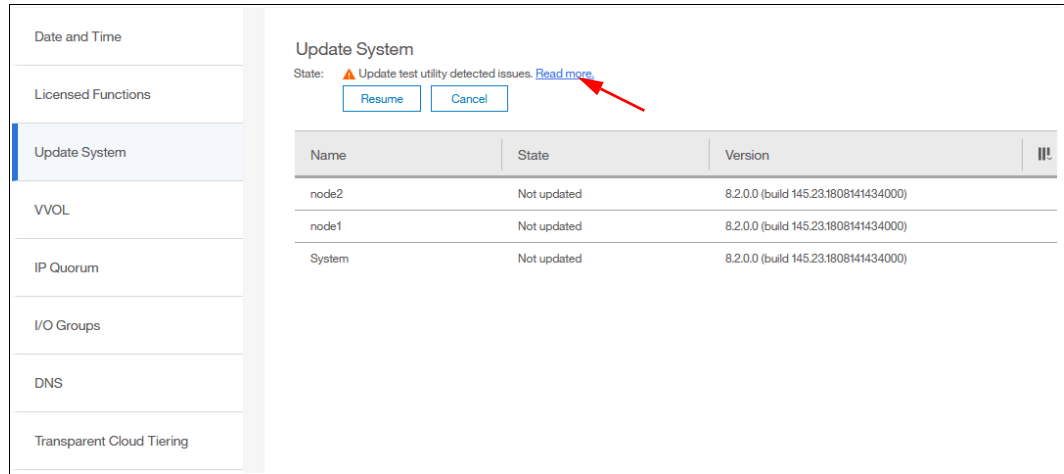

Figure 7-52 Issues detected by the update test utility
- Click **Update System** to return to the Update System window. Here, click **Read more** (Figure 7-52).